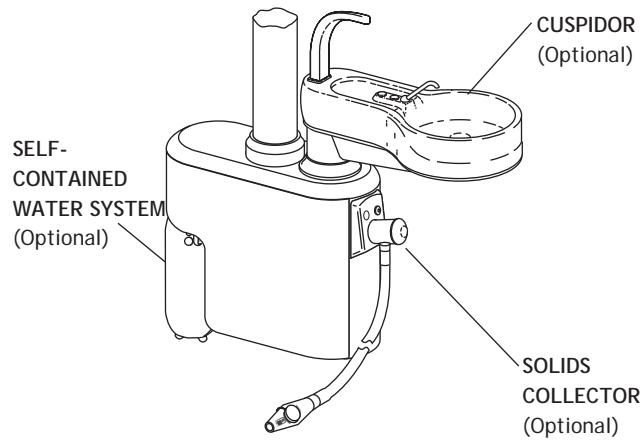

Figure 1. Post Box
The Cascade Post Box (*see Figure 1*) contains utility connections between the floor box and other A-dec products such as the control head, foot control, light, cuspidor, or assistant's instrumentation. The leveling mechanism is also housed within the post box. Depending on the options chosen, the post box may also contain a solids separator, a recessed location for a self-contained water system and quick disconnect (QD) outlets for the hydrocolloid, air, or scaler.